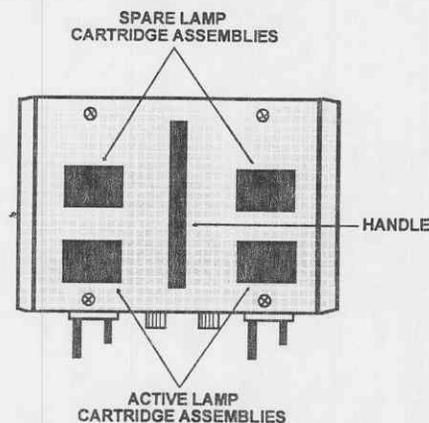

Figure 2-2. Lamp cartridge assemblies locations.
c. "REPLACE SPARE LAMP" indicators. The two amber indicators illuminate when the endoscopic instrument light is turned on and the applicable lamp in the spare lamp cartridge assembly (fig 2-2) is missing, burned out, or broken. The spare lamp cartridge assemblies are located on top of the endoscopic instrument light behind the active lamp cartridge assemblies.